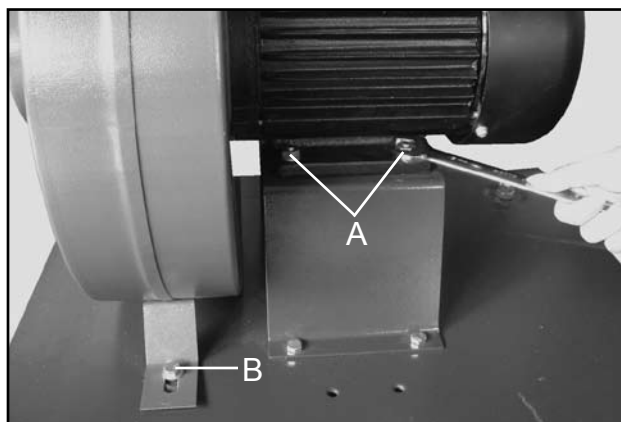

Fig. 03
2. Install a hex bolt through the holes on the motor base and motor from underside of motor base, place a washer and a hex nut on the top to tighten the bolt. (A-Fig. 03).
4. Install a washer over a hex bolt and insert through the strut in the fan housing into the the threaded hole in the base plate (B-Fig. 03). Repeat for second strut.